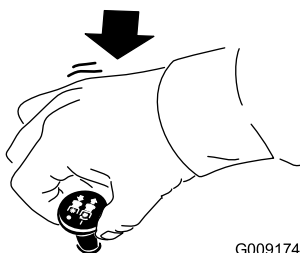

Figure 12
4. Move the blade-control switch (PTO) to the OFF position (Figure 12).